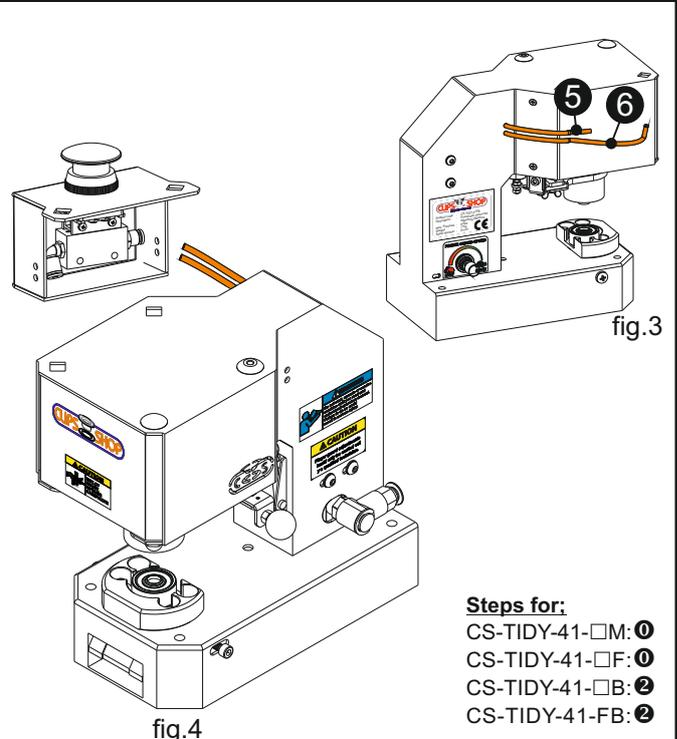

fig.4
1) Loosen and remove the nuts ❶ by using the wrench ❷ that comes with the machine. Then remove the bolts ❶ ❷ by manually pulling them out.
2) Locate the Start Button Box in a way where the short hose ❶ and long hose ❷ stays at bottom and top respectively as shown in (fig. 3) and (fig. 4).